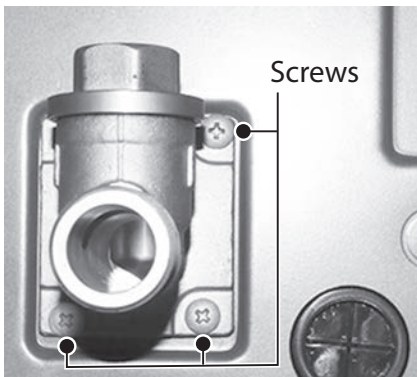

Figure 190 - Outlet assembly screw location
17 Locate the three (3) screws securing the outlet assembly to the base of the water heater. Use a Phillips screwdriver to remove the screws. Place screws aside in a safe place for reinstallation. See Figure 190.